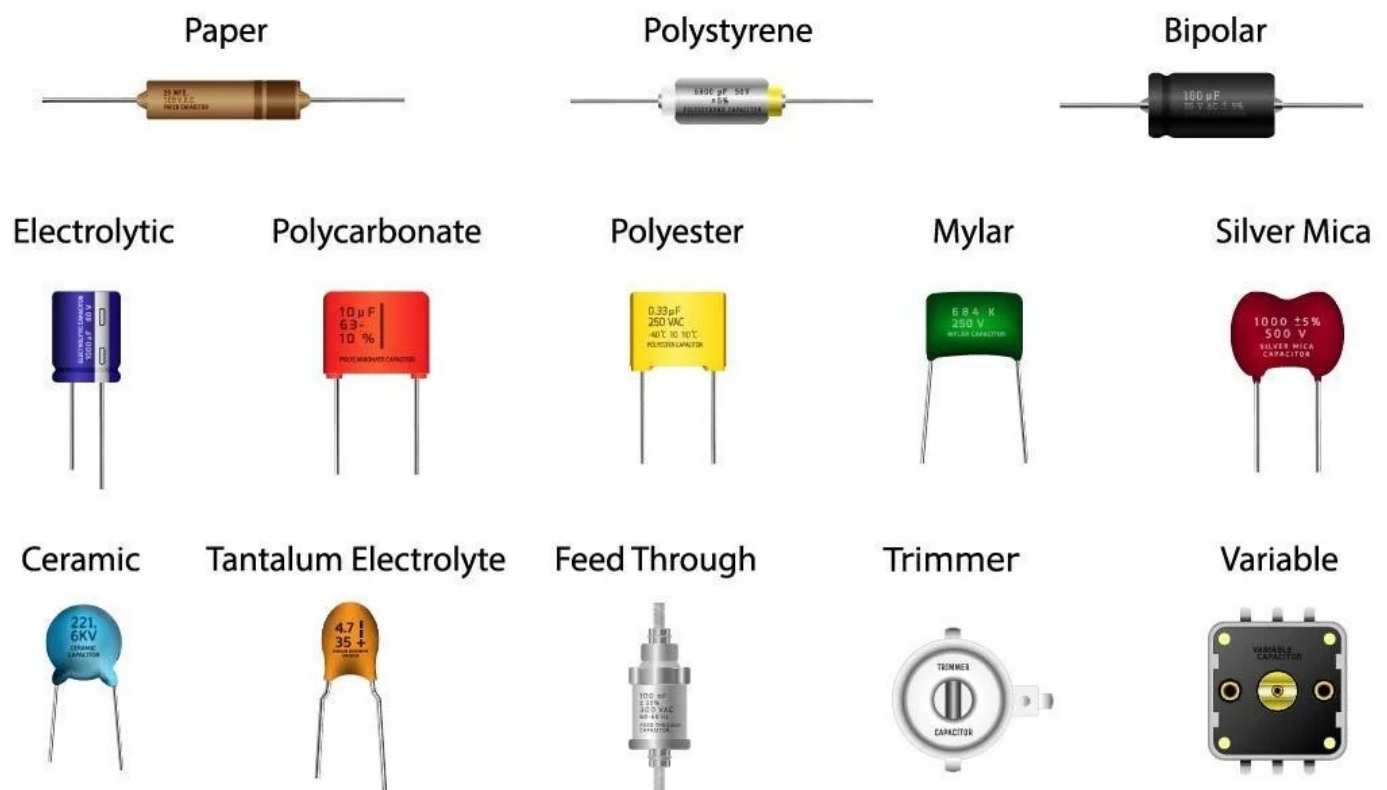

Figure 36: Capacitor Types
3. Explain: There are many different types of capacitors as shown in Figure 36